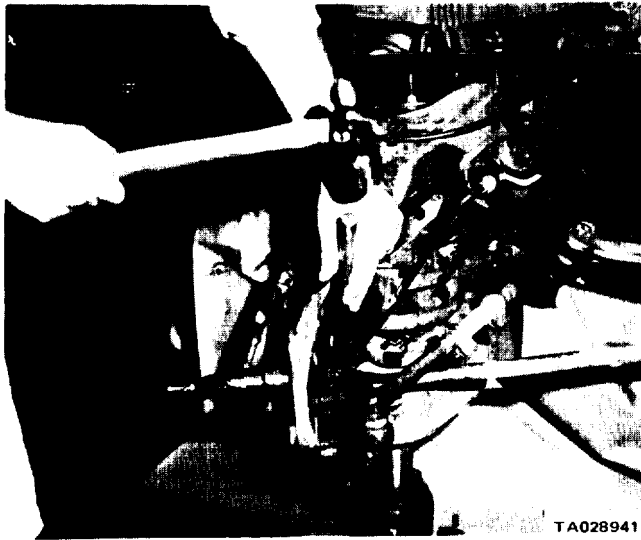

Figure 7-2. Removing Lower Ball Joint from Steering Knuckle
(1) Chock the rear wheels and raise the vehicle on jack stands. Remove the wheel.
(2) Remove the brake caliper and secure it out of the way. Do not allow the caliper to hang or be supported by the hydraulic brake hose.
(3) Remove the grease cap, cotter key, locknut, adjusting nut, washer, and outer bearing.
(4) Slide the rotor from the steering knuckle. Do not drag the seal or inner bearing over the steering knuckle thread. The thread, bearing, or oil seal may be damaged.
(5) Remove the mounting screws and the brake splash shield.
(6) Disconnect the sway bar from the lower control arm.
(7) Place a jack under the lower control arm and allow 1/2-inch clearance between the jack and the arm.
(8) Remove the cotter key and back off the nut on the lower ball joint hub until the top threads are protected.
(9) Using a brass drift, strike the ball joint stud until the ball joint has separated from the steering knuckle (figure 7-2).